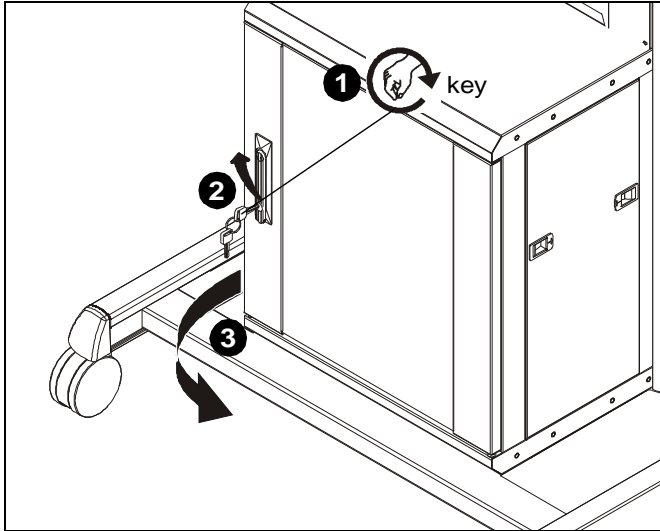

Figure 24
1. Insert key into handle keyhole and turn. (See Figure 24)
2. Lift up handle and turn to free inside latch. (See Figure 24)
3. Pull door open. (See Figure 24)